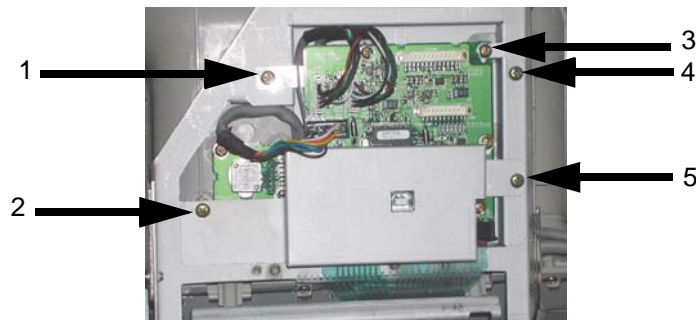

Figure 8-39 Removing EMC guard
- 1.) Unscrew five (5) screws and remove the EMC guard from the HUB Board. Refer to Figure 8-39.